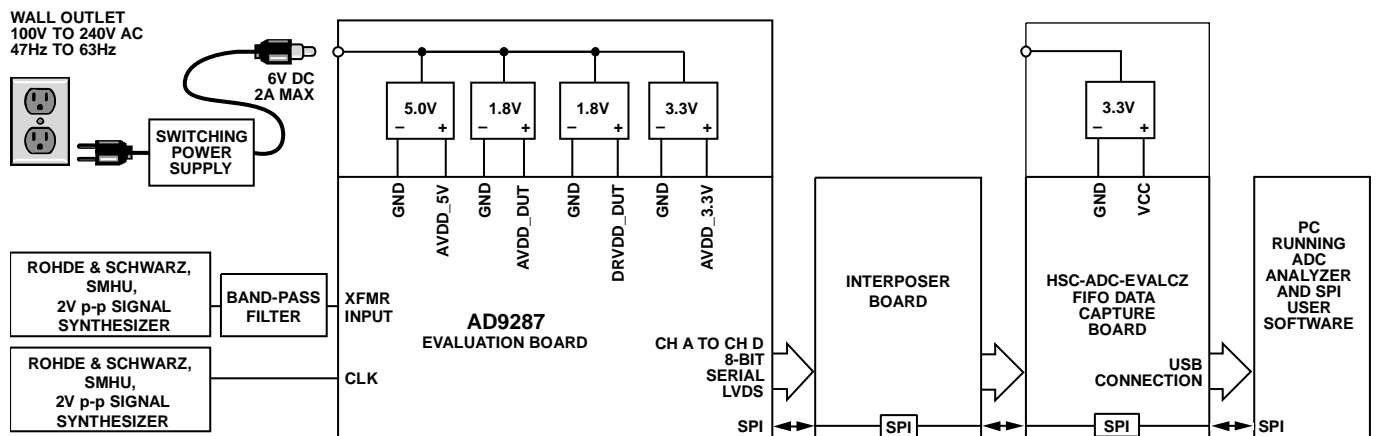
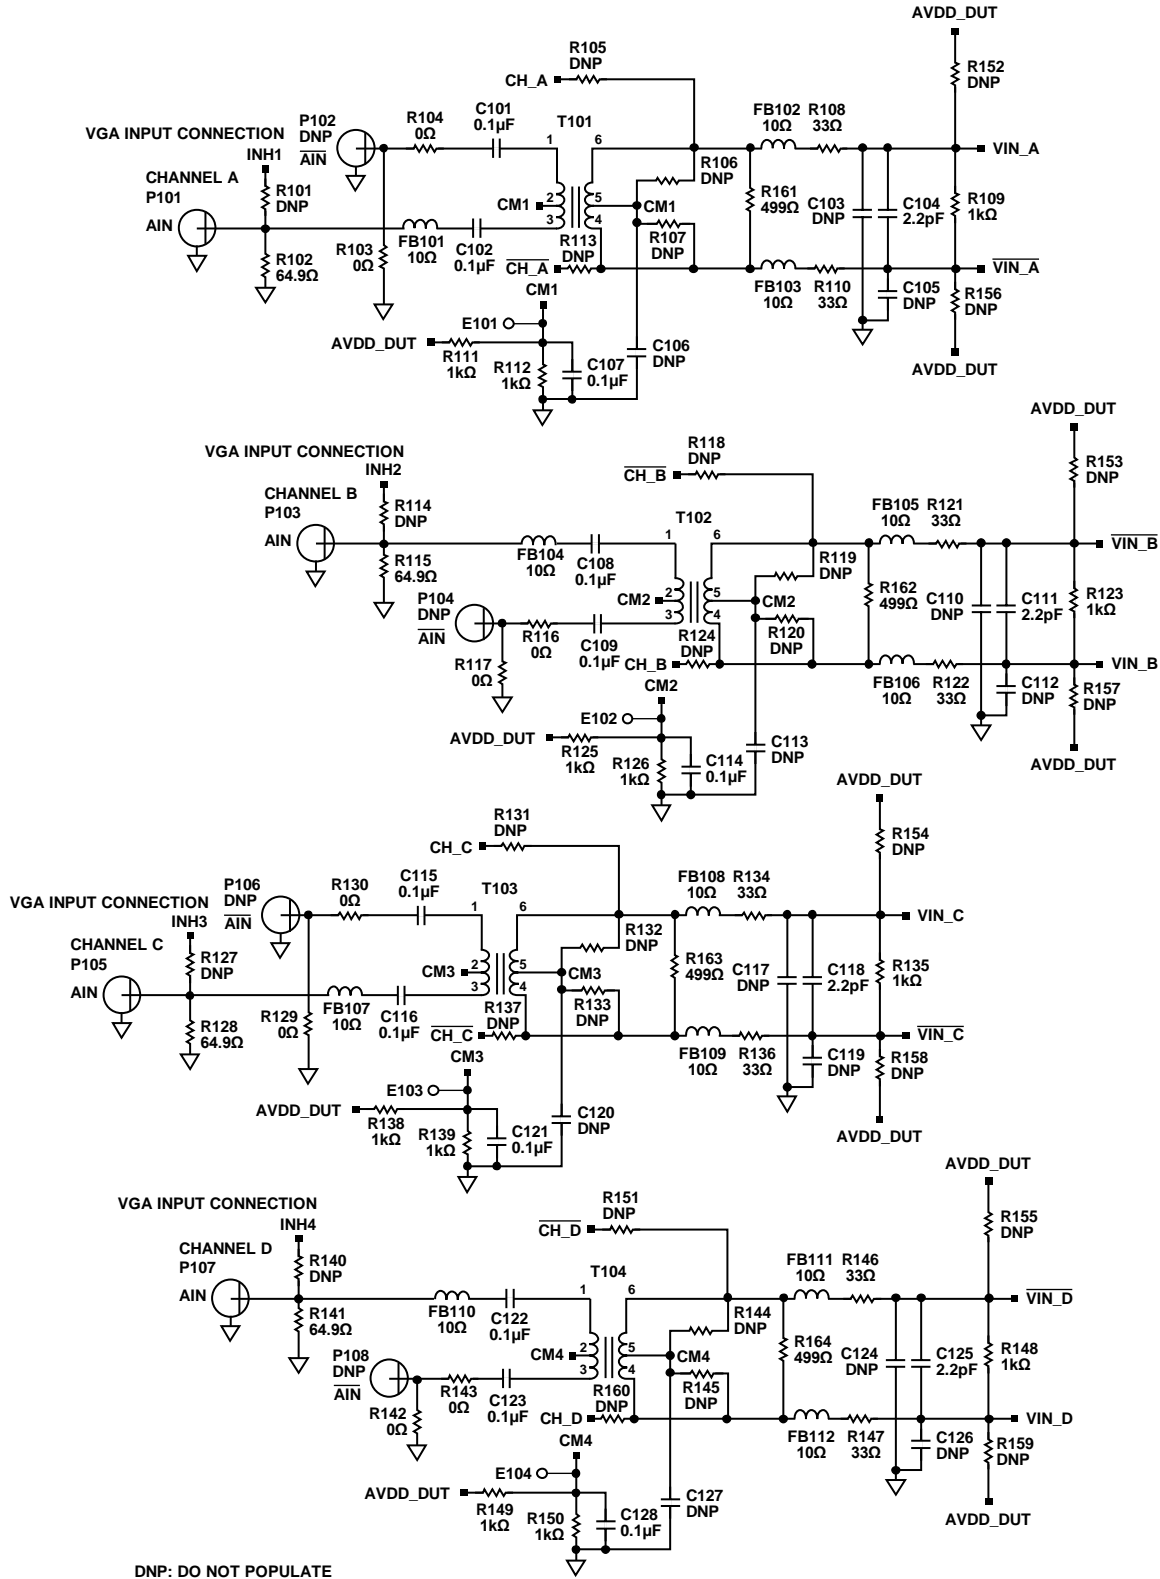
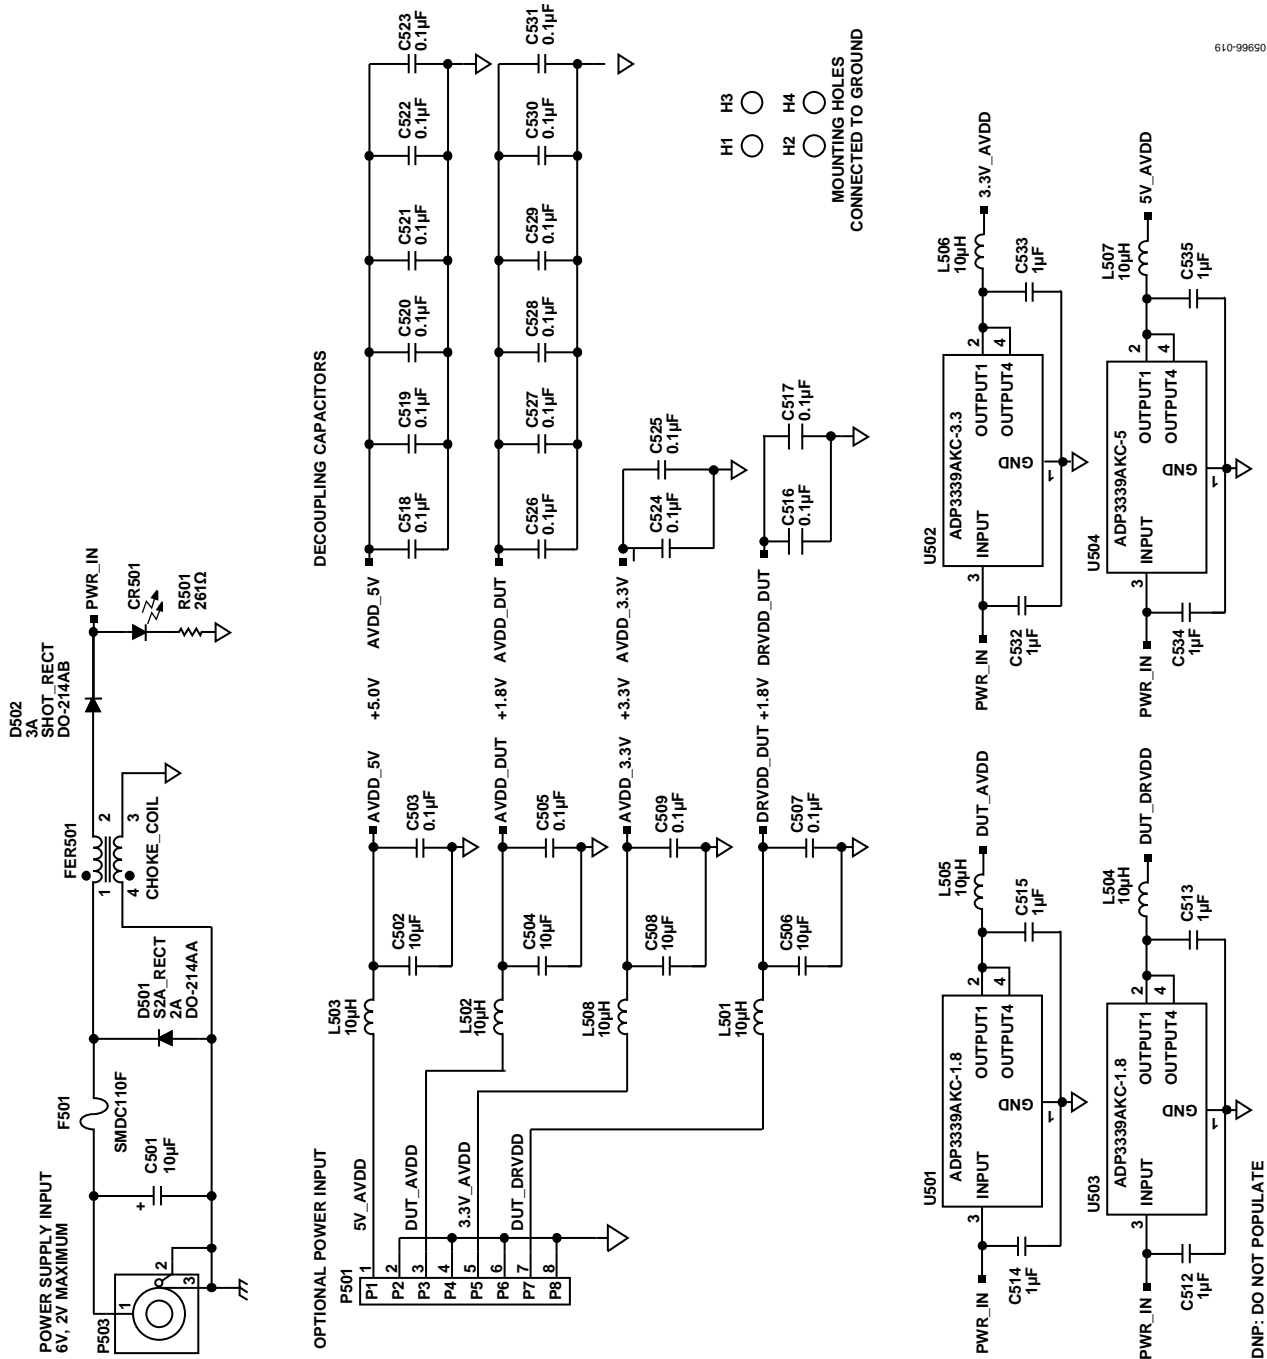

Figure 60. Evaluation Board Connection
Figure 62. Evaluation Board Schematic, DUT Analog Inputs
Figure 66. Evaluation Board Schematic, Power Supply Inputs
The AD9287 evaluation board provides all of the support circuitry required to operate the ADC in its various modes and configurations. The converter can be driven differentially using a transformer (default) or an AD8332 driver. The ADC can also be driven in a single-ended fashion. Separate power pins are provided to isolate the DUT from the drive circuitry of the AD8332. Each input configuration can be selected by changing the connection of various jumpers (see Figure 62 to Figure 66). Figure 60 shows the typical bench characterization setup used to evaluate the ac performance of the AD9287. It is critical that the signal sources used for the analog input and clock have very low phase noise (<1 ps rms jitter) to realize the optimum performance of the converter. Proper filtering of the analog input signal to remove harmonics and lower the integrated or broadband noise at the input is also necessary to achieve the specified noise performance.
See Figure 62 to Figure 70 for the complete schematics and layout diagrams demonstrating the routing and grounding techniques that should be applied at the system level.
- **D + x, D - x:** If an alternative data capture method to the setup shown in Figure 60 is used, optional receiver terminations, R206 to R211, can be installed next to the high speed back-plane connector.